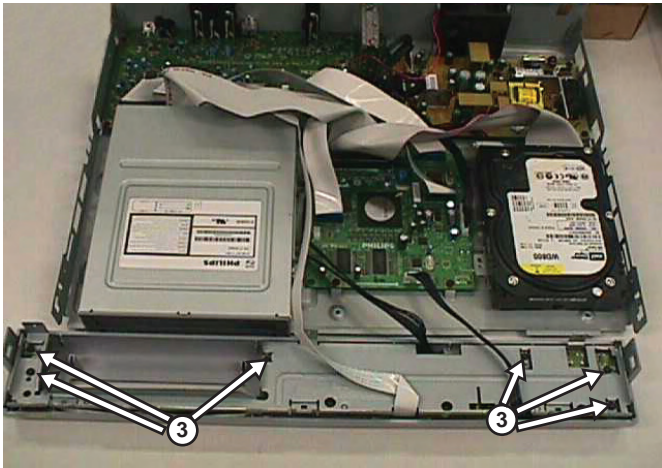

Figure 4-5
- 3) Remove the 6 screws to remove the front plate 184 as shown in Figure 4-5.